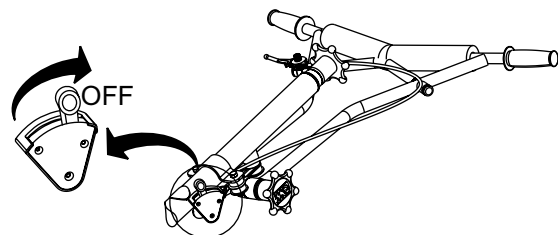

Figure 32. Testing Safety Stop Switch
1. With the engine running at idle, place the safety stop switch lever in the "**OFF**" position (Figure 32). Verify that the engine shuts off. If the engine continues to run, replace centrifugal safety stop switch.